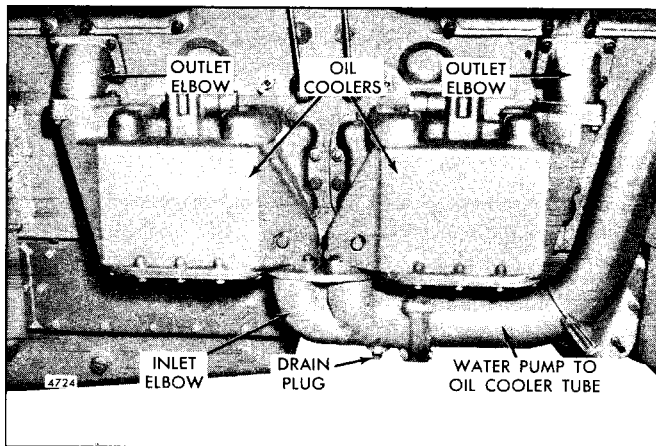

Fig. 1 - Oil Cooler Mounting
- Two oil coolers are used on the 12V and 16V engines and are centrally located on the right side of the cylinder block (Fig. 1). A new, increased-capacity, 30 plate lube oil cooler core has been released for 12V and 16V engines. The new oil cooler core is completely interchangeable with the 26-plate oil cooler core formerly used, and only the new 30-plate core should be installed on 12V and 16V engines. Current high strength, 30-plate cores are made of stainless steel and have regularly spaced, rounded rises (bumps) on their plate surfaces.